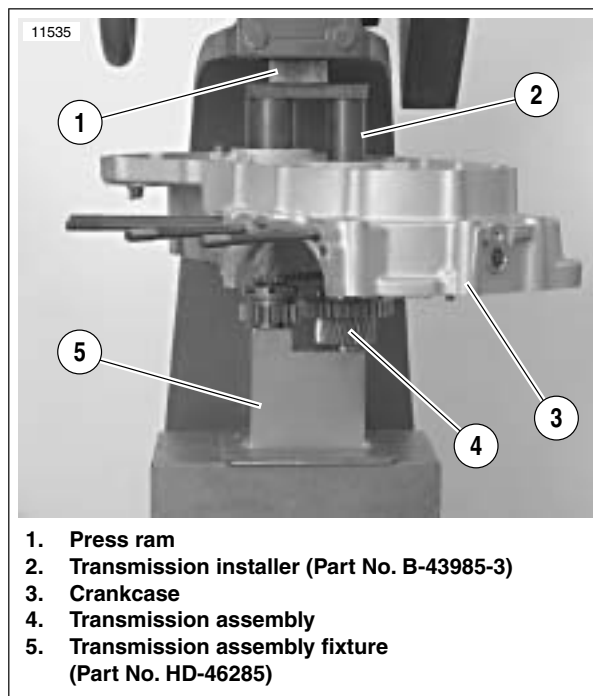

Figure 6-88. Pressing Transmission Into Left Crankcase (Typical)
3. See Figure 6-88. Place left case half over transmission assembly and install TRANSMISSION INSTALLER (Part No. B-43985-3) into crankcase.